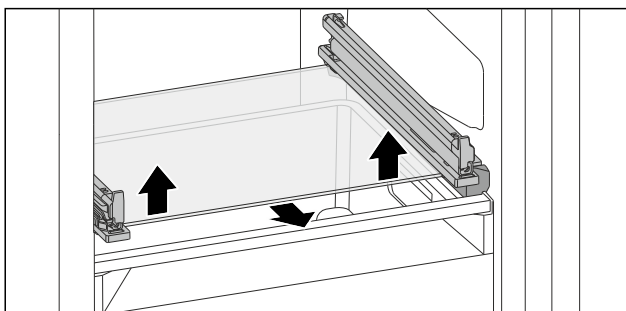

Fig. 140 Tilting drawer glass shelf
- ▶ Push glass shelf upwards from below on both sides. (see Fig. 140)